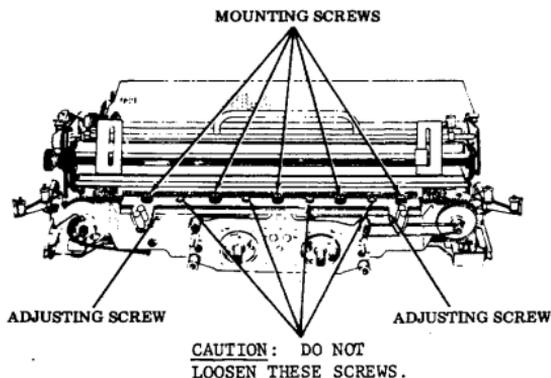

FIG. 4
- Turn the adjustment screw clockwise to move backup bar closer to hammers and counterclockwise to move backup bar away from hammers. Fig.4 shows mounting and adjustment screw locations.